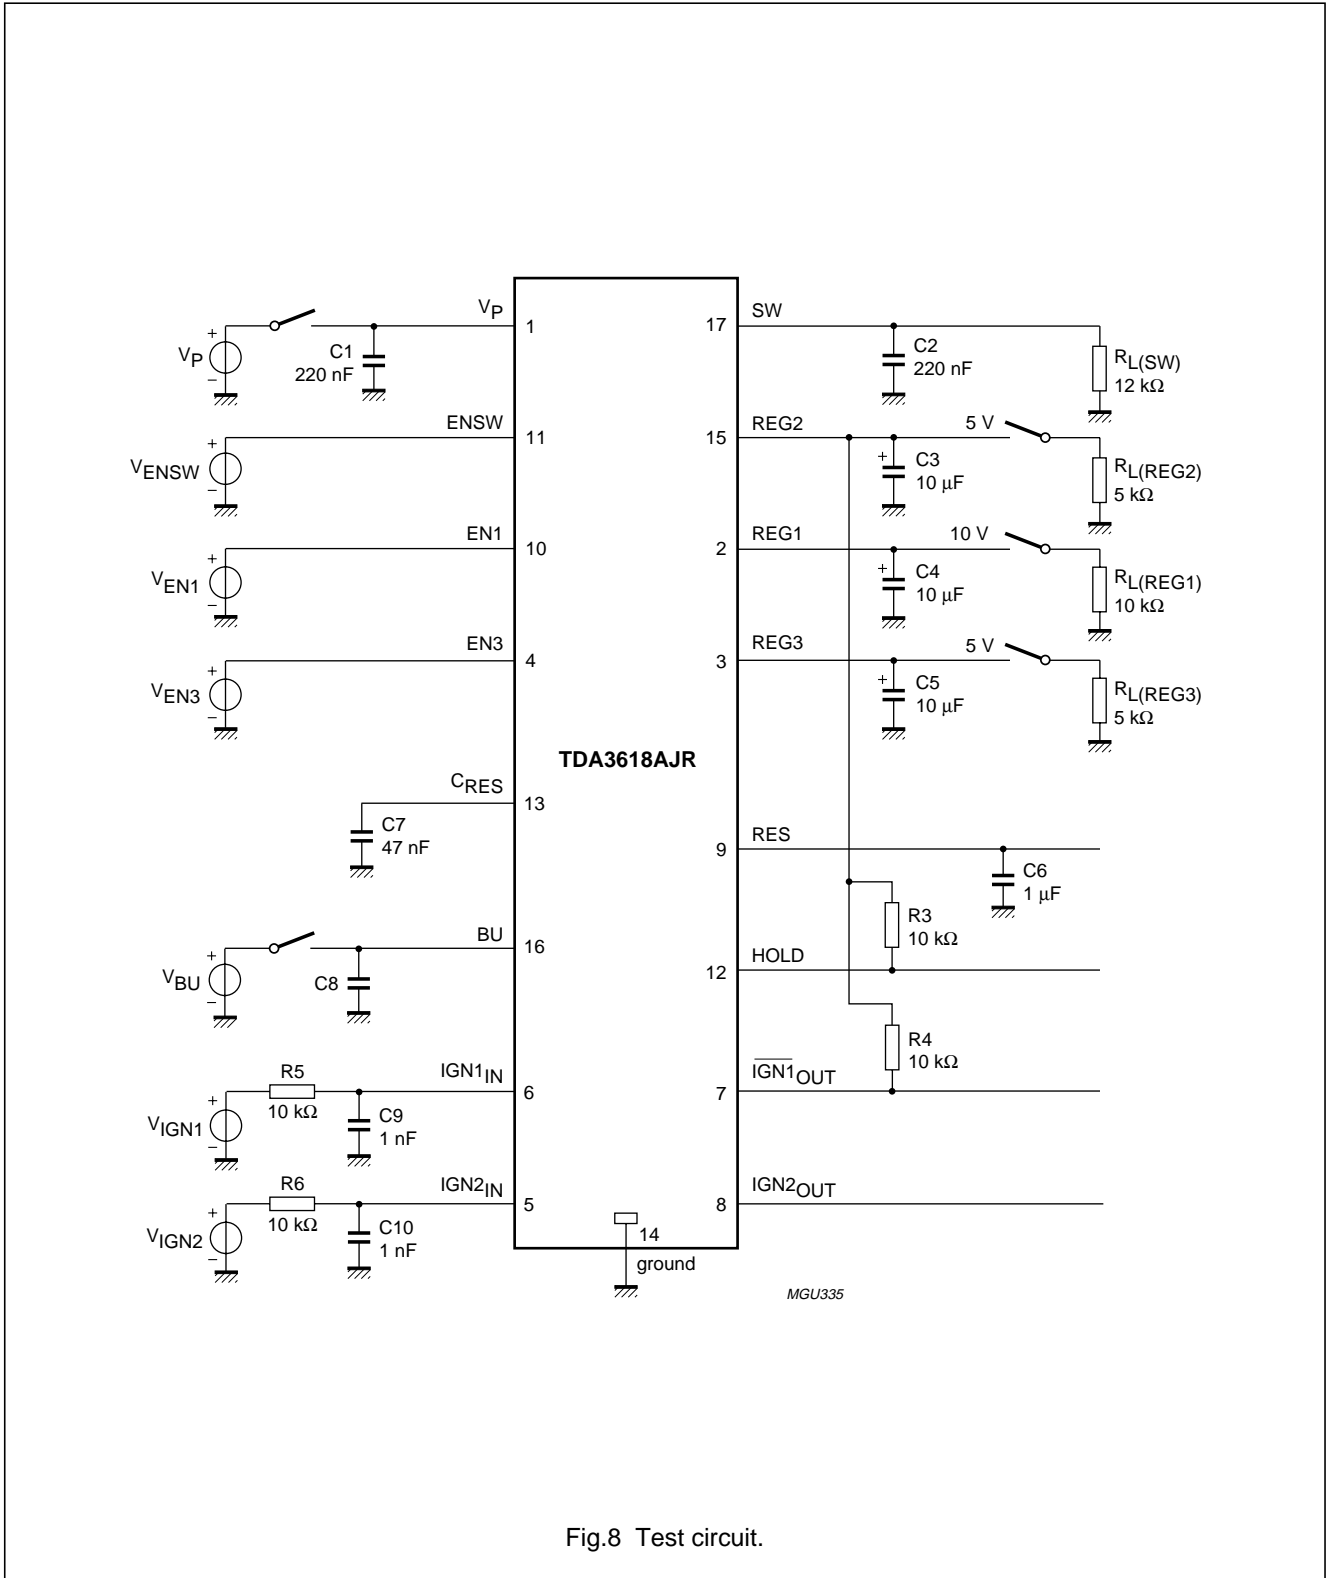

Fig.8 Test circuit.
- The quiescent current is measured in the standby mode with pins EN1, EN2 and ENSW connected to ground and  $R_{L(\text{REG2})} = \infty$  (see Fig.8).